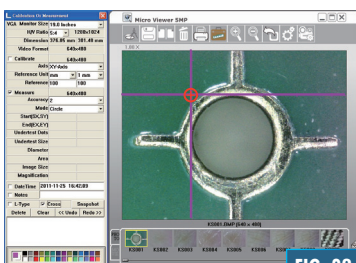

FIG. 32
5. Hold the right button of the mouse at the upper left of the object (Fig. 32).